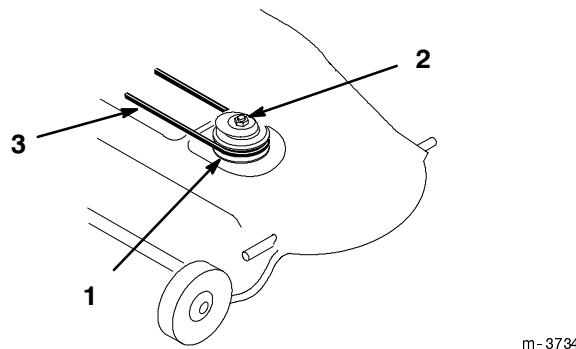

Figure 28
2. Pull on mower idler assembly to release belt tension and remove blade drive belt from right side pulley (Fig. 28).
3. Remove nut and lock washer from right hand blade spindle (Fig. 28). Remove double pulley.